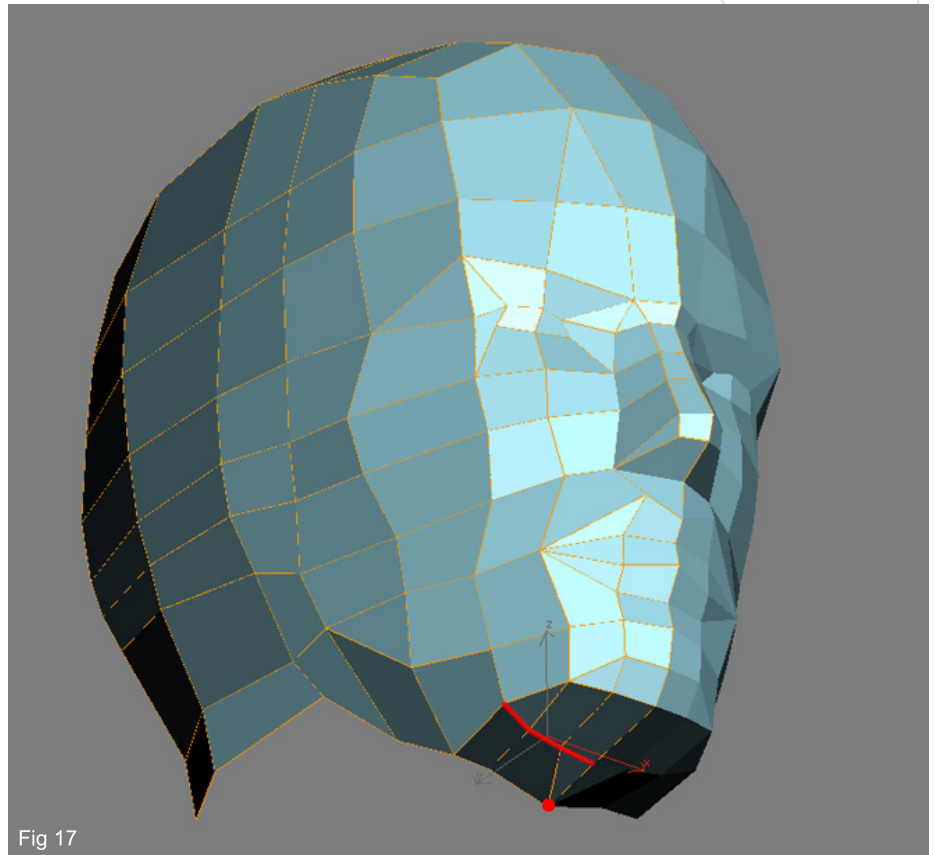

Fig 17
17. To remedy the very flat underside of the chin we shall now make a further cut across from the vert in the middle (shown in red in Fig17). The extra verts can now be pulled downward to form a more rounded profile and the the one left of the center can be welded to the central one to reduce the poly count.